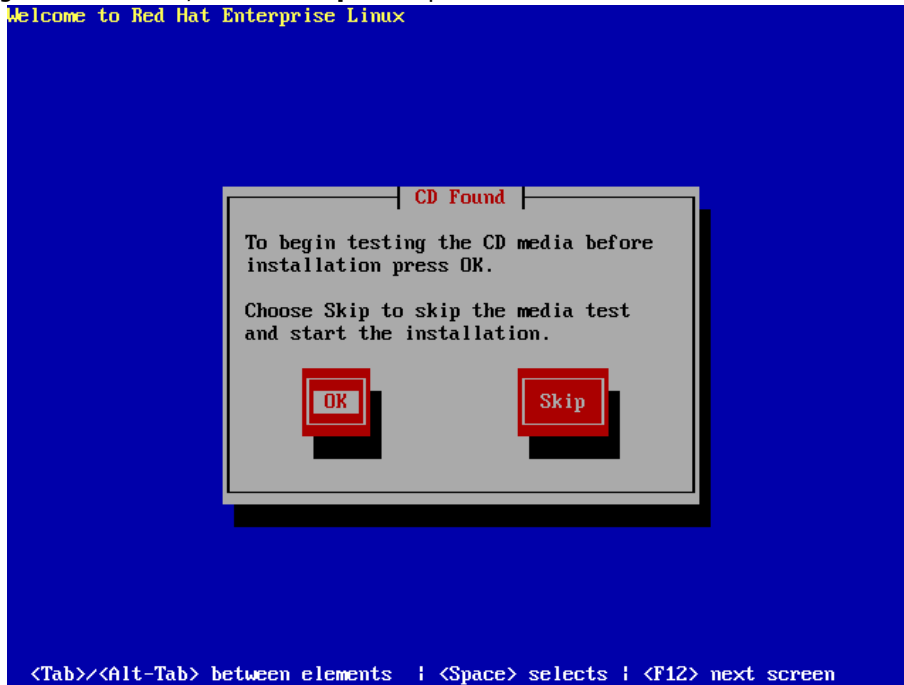

Figure 5-2
4. As Figure 5-2 shows, choose **Skip** to skip the media test and start the Linux installation.